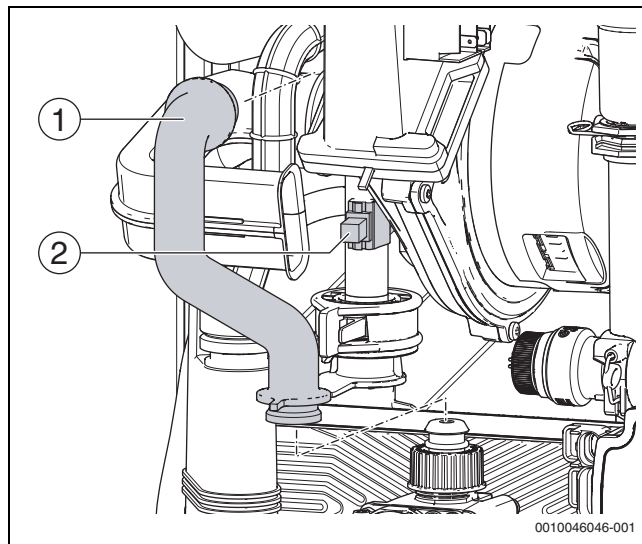

Fig. 165 Replace the NTC at the flow pipe
- ▶ Place the new NTC [2] on the flat surface of the flow pipe (close to the inlet of the heat exchanger) (→ Figure 165) (position → Chapter 9.11, page 59).